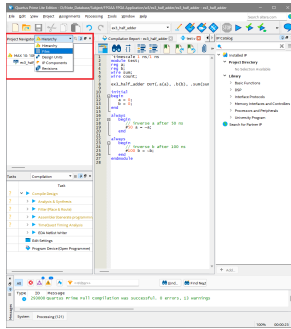

Figure 13: Type in codes
4. Type in codes in the "test.v" file and save it. (Figure 13)